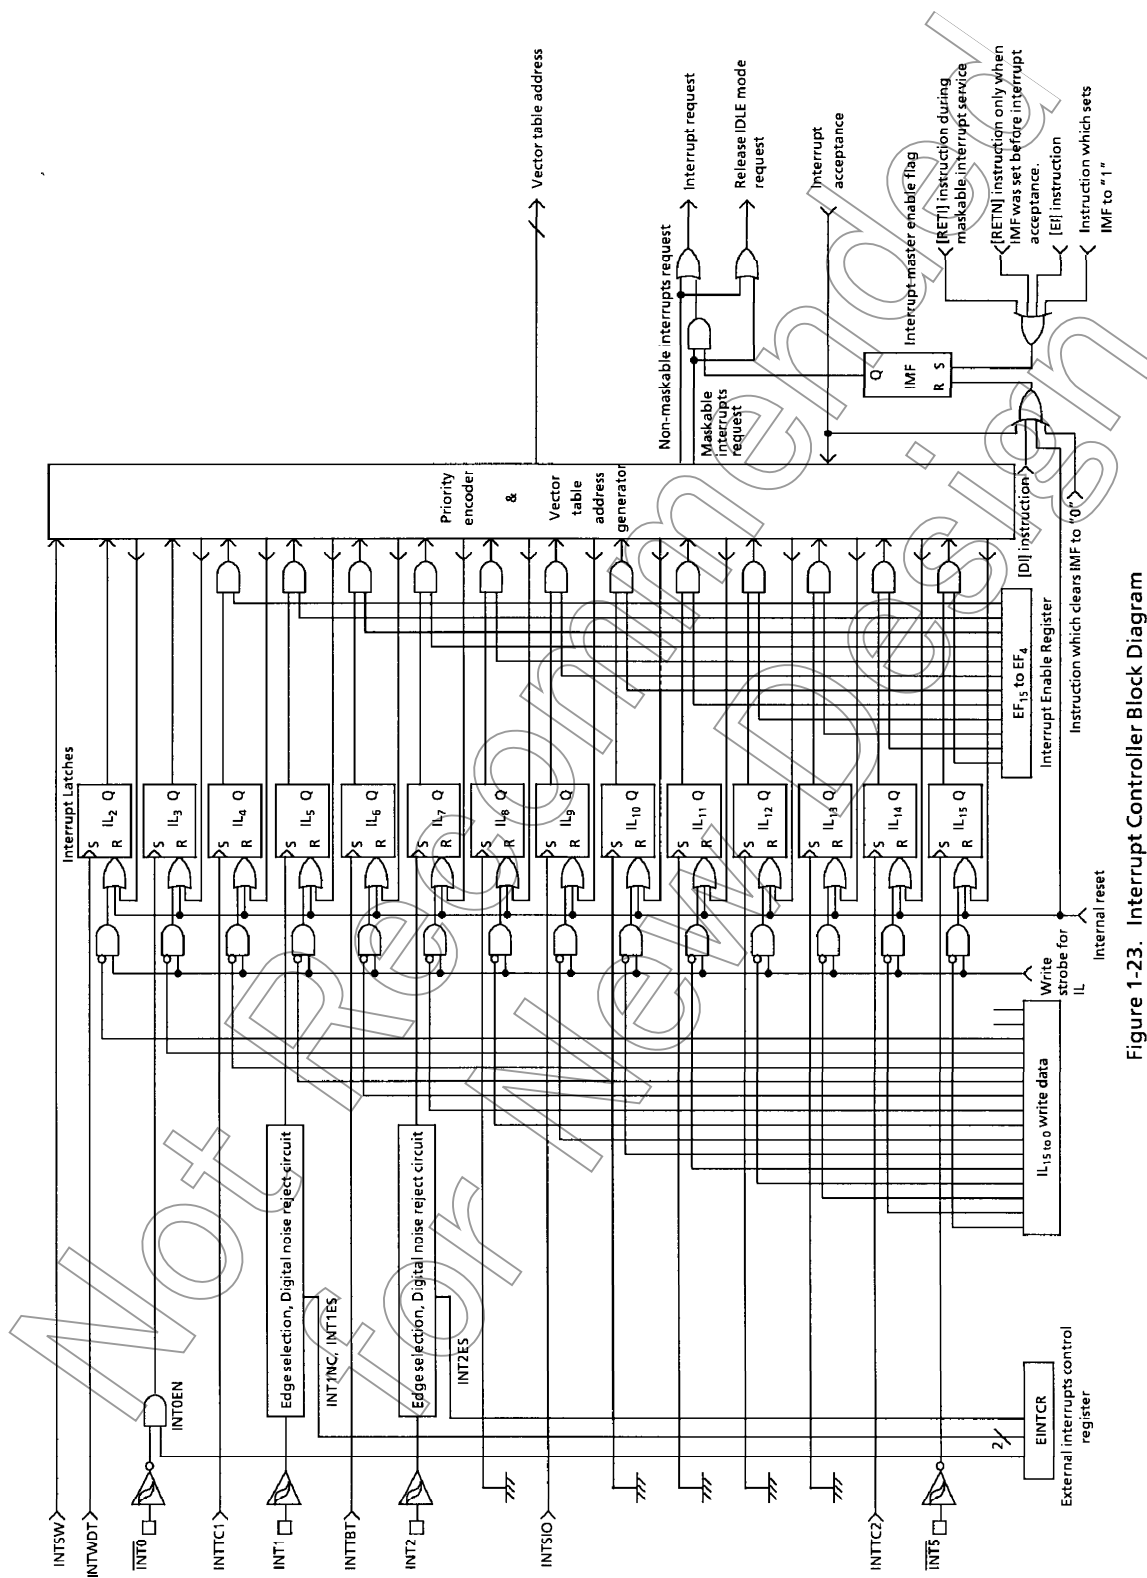

Figure 1-23. Interrupt Controller Block Diagram
Interrupt latches (IL) that hold the interrupt requests are provided for interrupt sources. Each interrupt vector is independent. The interrupt latch is set to "1" when an interrupt request is generated and requests the CPU to accept the interrupt. The acceptance of maskable interrupts can be selectively enabled and disabled by the program using the interrupt master enable flag (IMF) and the individual interrupt enable flags (EF). When two or more interrupts are generated simultaneously, the interrupt is accepted in the highest priority order as determined by the hardware. Figure 1-23 shows the interrupt controller.